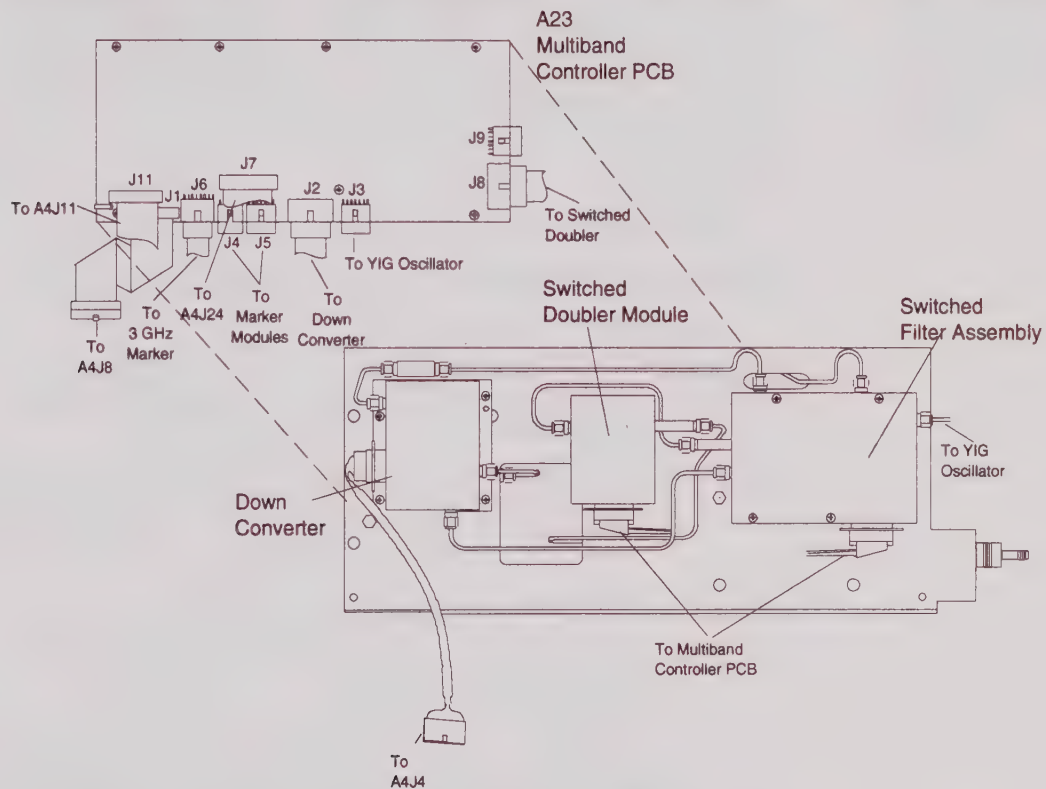

Figure 7-19. Models 54154A through 54169A RF Deck Parts Location (Internal Side Detail)
- Step 1.** Remove the marker connection from A23J5 on the Multiband Controller PCB (Figure 7-19).
- Step 1.** Remove the connection from A23J4 on the Multiband Controller PCB (Figure 7-19).
Step 2. Remove the Switched Filter (See Figure 7-19 and procedure on next page).